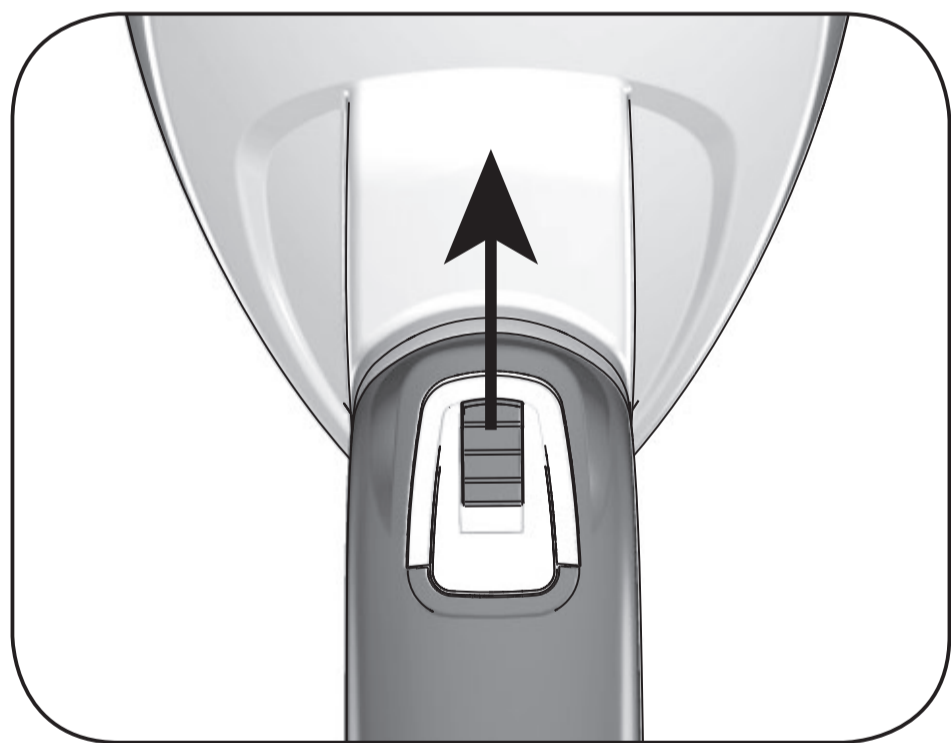
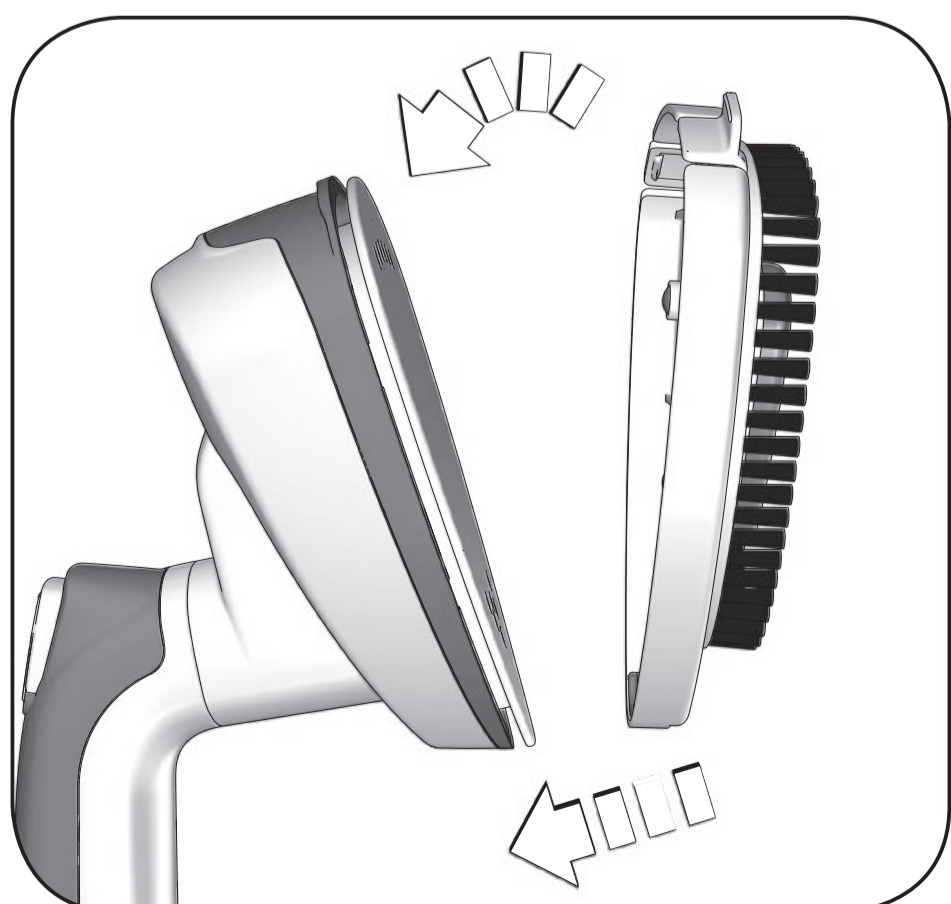
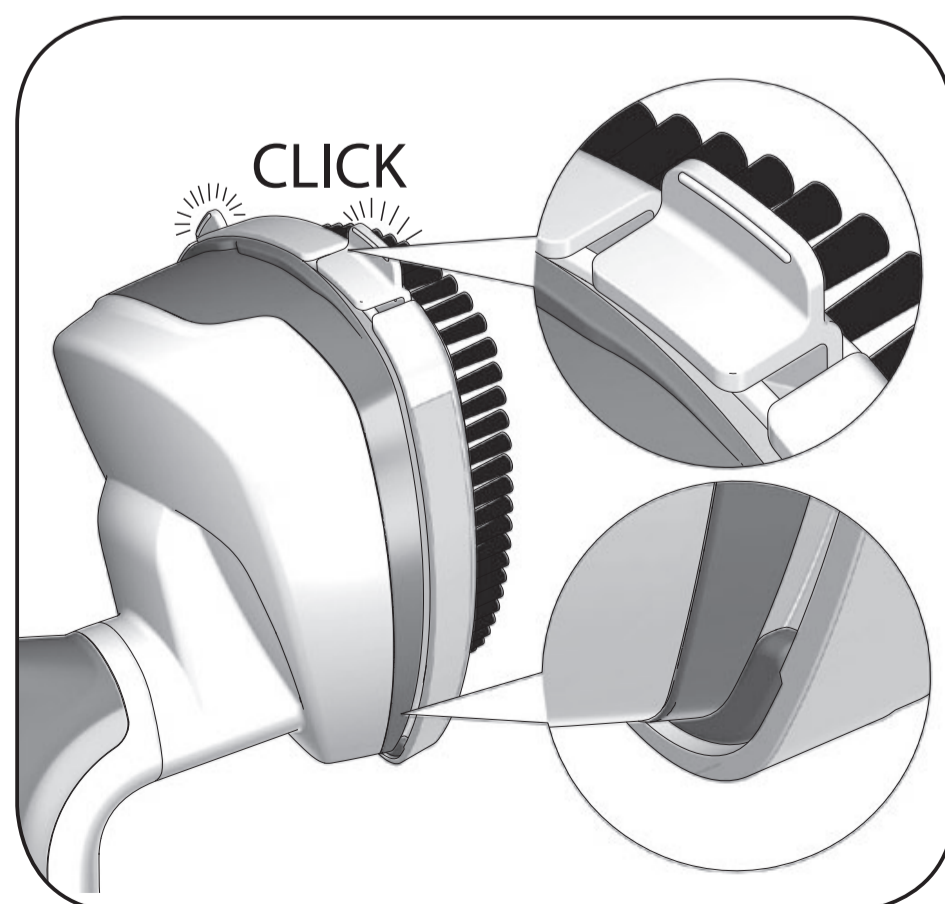
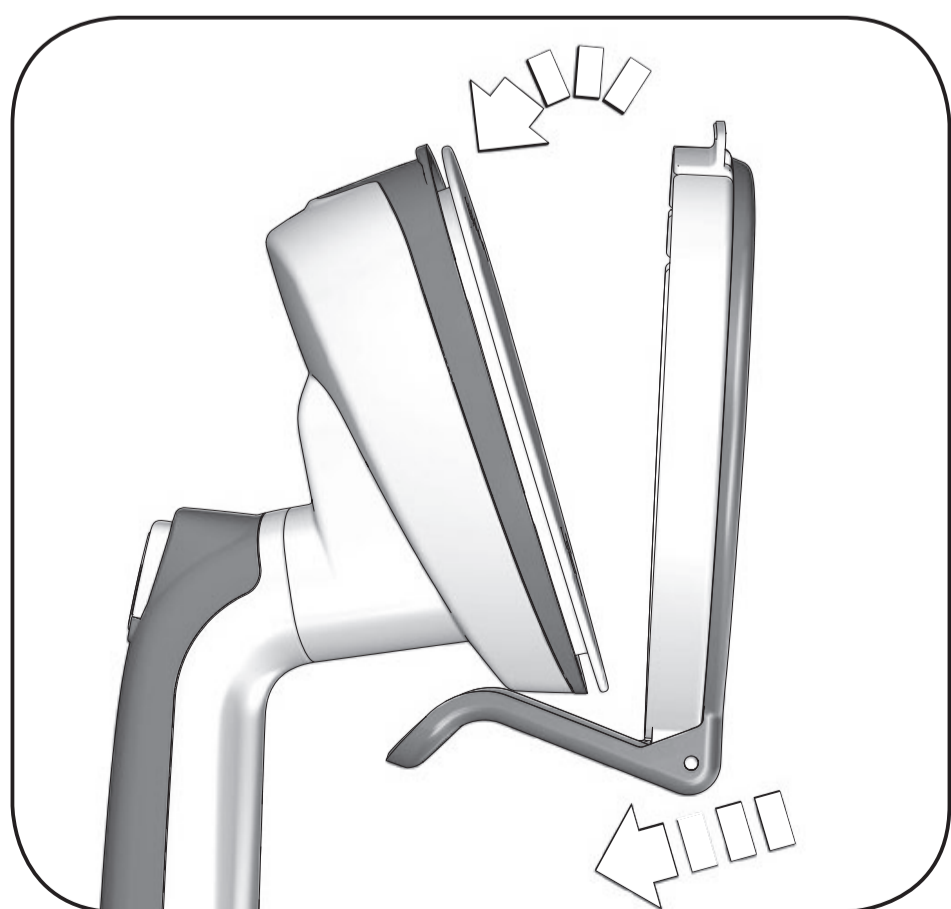

Fig. 13
Fig. 14
Fig. 15
Fig. 16
3. To emit a continuous and constant jet of steam, move the continuous steam lock slider upwards (Fig. 13).
1. Attach the brush. First insert the brush tip (Fig. 14). The correct insertion is done with a “click” (Fig.15).
2. Place the garment on a folding rack. Pull the garment with your free hand. Place the appliance on the garment folds. Press the steam button (F) and then release it. Move the appliance from right to left. Move the appliance from the bottom upwards and brush. Press the steam button (F) several times.
2. Assemble the wrinkles accessory. The correct insertion is done with a “click” (Fig. 16).
3. Place the garment on a folding rack. Pull the garment with your free hand. Push the accessory lever. Insert the cloth in the slit. Press the steam button (F) and then release it. Move the appliance from the top to bottom until you removed the wrinkle. Press the steam button (F) several times.
4. To emit a continuous and constant jet of steam, move the continuous steam lock slider upwards (Fig.13).